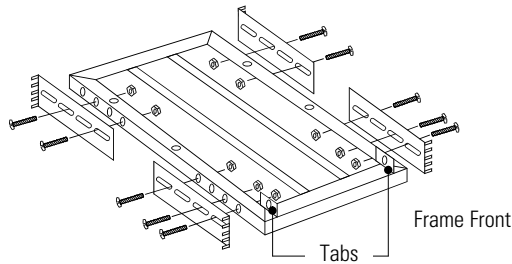

Figure 6. Frame Assembly
2. Assemble the frame that supports the battery cabinet as shown in Figure 6. Leave all bolts finger-tight until the frame is sized for the rack.